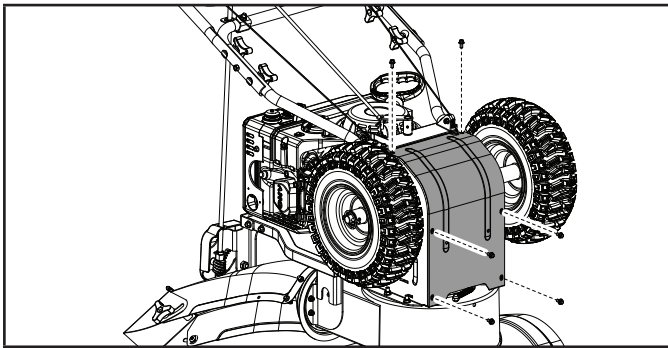

Figure 25
- Remove the base frame cover (1) from the underside of the snowblower by removing the six M6 × 16 screws which secure it (Fig 25).